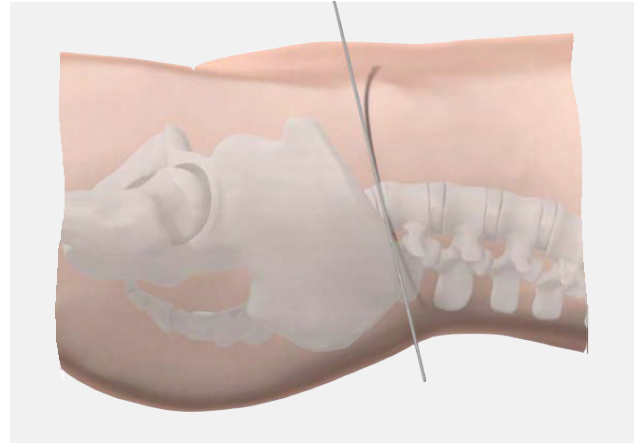

Figure 1
- Locate the correct operative disc level and make an incision location by taking a lateral X-ray (fluoroscopic view) while holding a straight metal instrument at the side of the patient (Figure 1). This insures that the incision and exposure will allow direct visualization into the disc space. Expose the operative disc level and retract tissues using preferred instruments. Retract and protect the great vessels to allow complete exposure and visualization of the operative site.